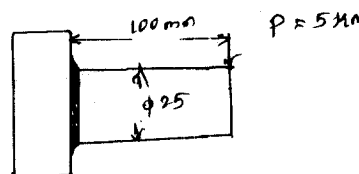

Fig.Q8(a)
- 8 a. A solid circular shaft 25 mm in diameter is welded to a support by means of a rivet weld as shown in Fig.Q8(a). Determine the lag dimensions of the weld if the permissible shear stress is 95 N/mm^2 .